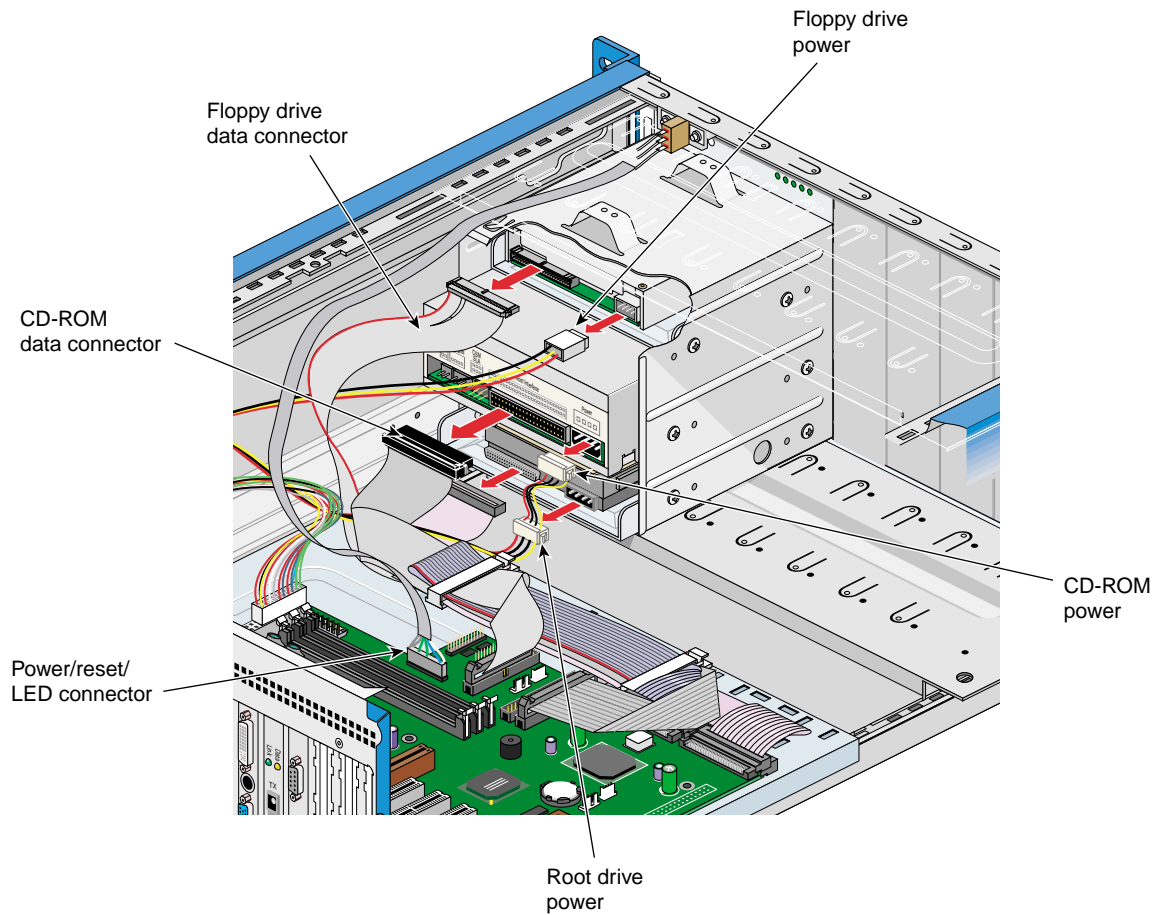

Figure 5-1 Internal Drive Cabling
7. Disconnect all cables from drives in the cage; see Figure 5-1.